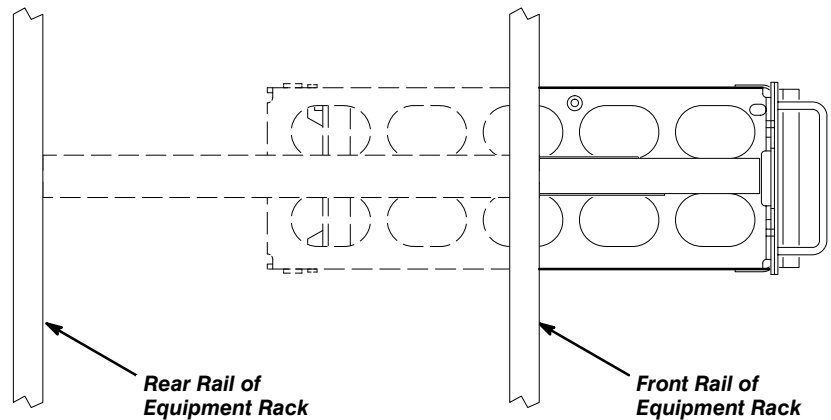

Figure 27: Track Alignment
1. Pull the instrument out of the rack until approximately half of the instrument is extended past the front rails of the equipment rack. See Figure 27.